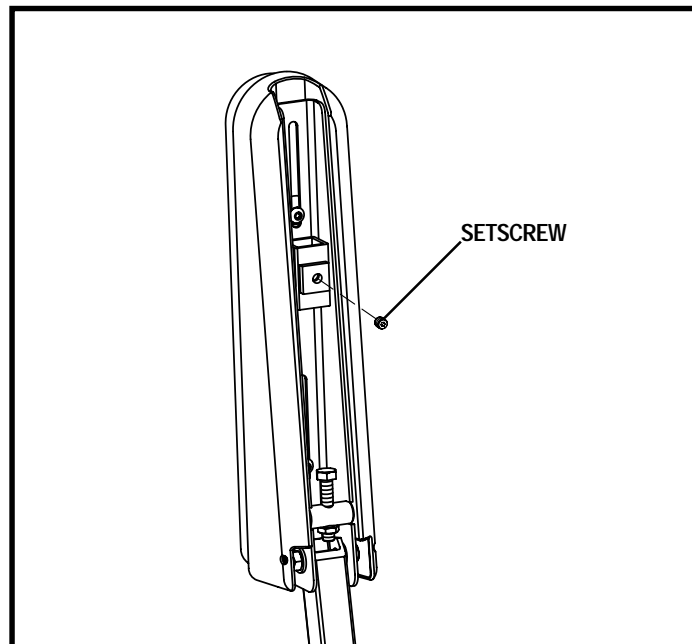

Figure 13. Underside of Armrest
5. Loosen the setscrew. See figure 13.